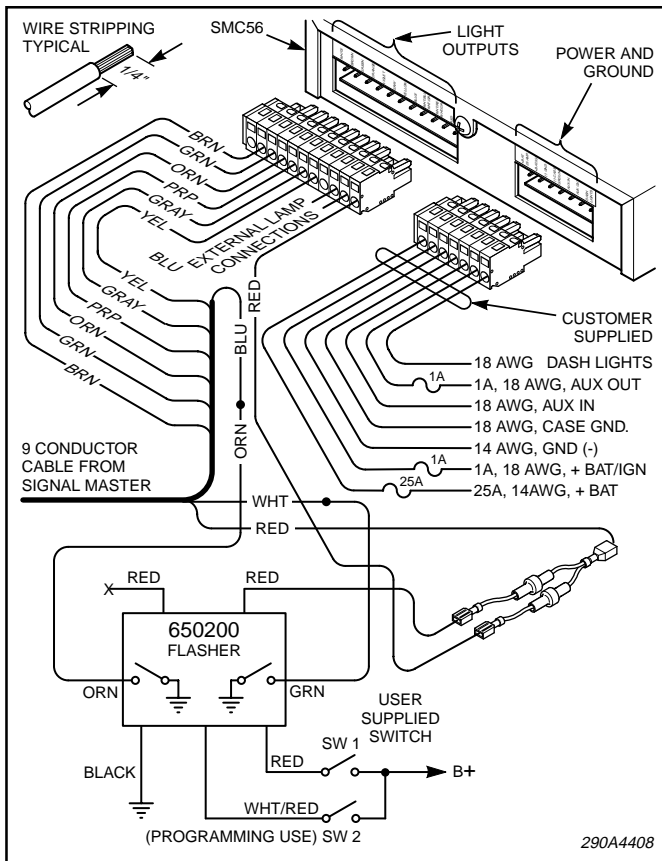

Figure 1.
See figure 1. To connect the SignalMaster Model 320773 light assembly to the flasher (Model 650200) and control unit (Model SMC56), proceed as follows:
8. Using 16 AWG wire, connect the other Y-harness' red wire to the 11-position connector as shown in figure 1.